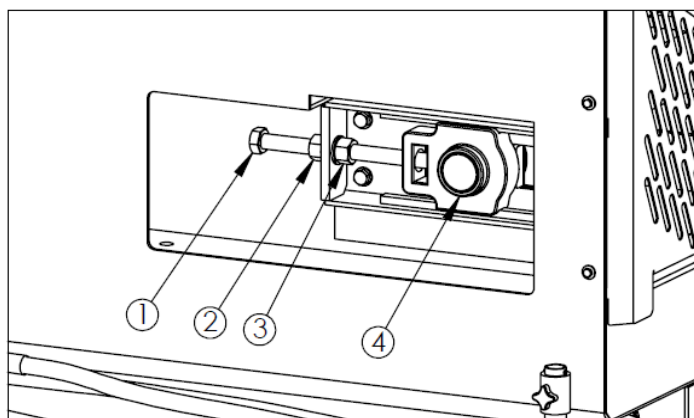

Figure 17 Tensioning the floor-conveyor chain
The tension of the floor-conveyor chains during operation must be checked daily, especially during the initial period of operation. Carry out the tensioning of the conveyor chains by adjusting the screws at the front of the spreader structure side walls - Figure 17. To increase chain tension, loosen the nut (2) while holding the nut (3) with a wrench and use the bolt (1) to move the bearing unit (4) forward. Follow the tensioning procedure on both sides of the spreader, ensuring that the chain tensions are equal.